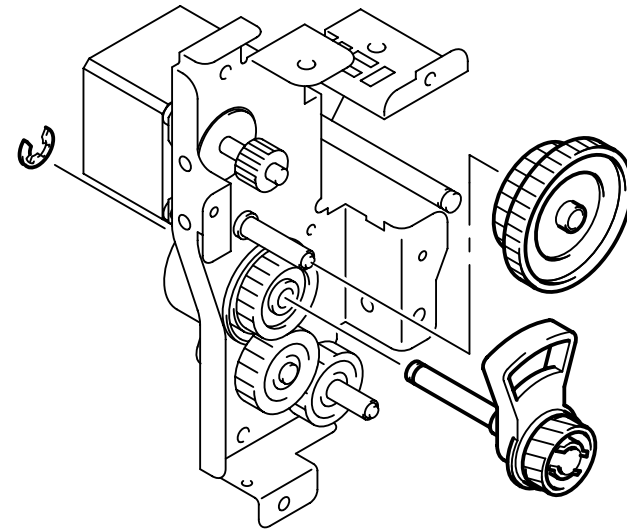

Figure 4-30. Removing the Drive Gear
3. Remove the shaft of the Rack Clutch and remove the Drive Gear. (1 E-ring) (See "Figure 4-30 (p.189)")